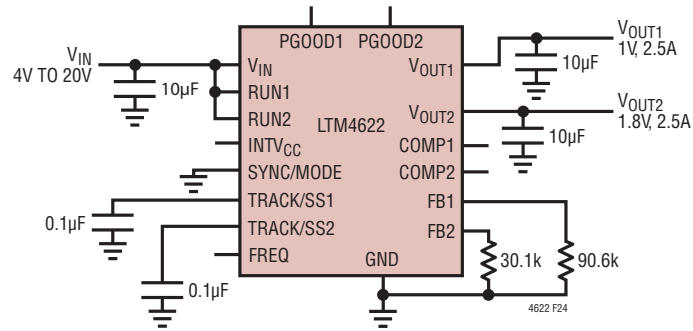

Figure 24.  $4V_{IN}$  to  $20V_{IN}$ , 1V and 1.8V Output at 2.5A Design
**Table 7. Output Voltage Response for Each Regulator Channel vs Component Matrix (Refer to Figure 24)